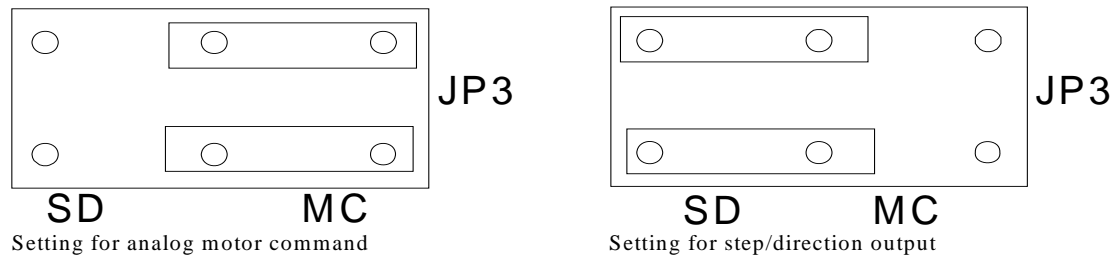

Figure 2.3 - Jumper settings for motor command output
The DMC-141X has been setup by the factory for standard servo motor operation providing an analog command signal of +/- 10 volt. The position of the jumpers at JP3 determines the type of output the controllers will provide, analog motor command or PWM output. The installation of these jumpers is discussed in the section “Configuring Jumpers on the DMC-14XX”. Figure 2.3 shows how the jumpers are configured for the standard output mode.
In addition to the SMX jumper, the controller output must be configured for stepper output by the placement of jumpers at location JP3. This jumper location controls whether the controller will output the analog motor command signal (MC), or the step and direction signals (SD). Figure 2.3 shows how these jumpers should be configured for stepper mode.